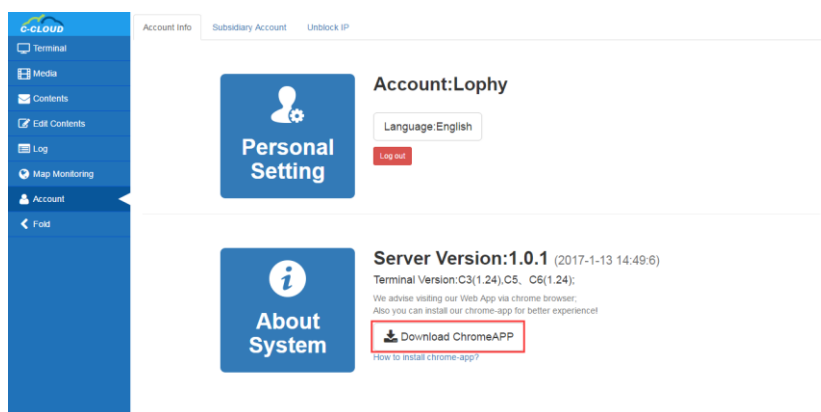

Figure 3.1-1
1. Click Account Info and select Download Chrome APP after entering the web, as shown in Figure 3.1-1 below.